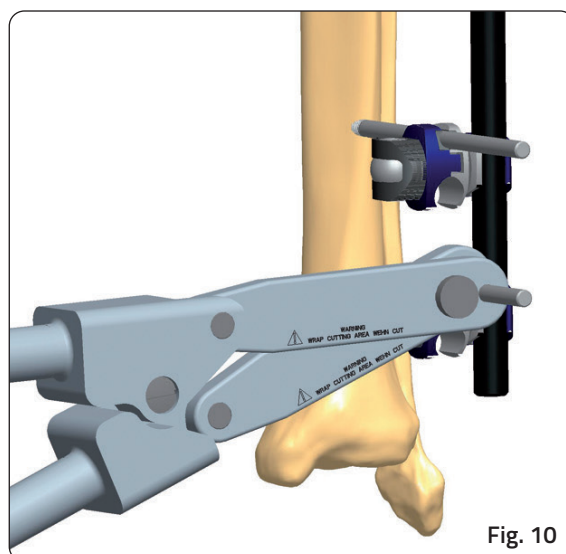

Fig. 10
10. The screw shafts are then cut with the bone screw cutter (Fig. 10). Although the screws can be cut before insertion, it is difficult to gauge the length accurately, and it is recommended that they are cut after the fixator has been applied. It is important that all of the screws are inserted first, and the fixator applied with the clamps locked firmly over the screws, about 30mm from the skin. The cutter can then be slid over the screw shanks in turn and the screws cut close to the fixator clamps. This will normally result in about 6mm of screw shank protruding from the clamp. The cutter is designed so that it can be used even when screws are in adjacent seats of the multi-screw clamp. The cut ends of the screws can then be protected with screw caps. When cutting the screws, the arms of the cutter should be extended for greater efficiency and the outer end of the screw held.